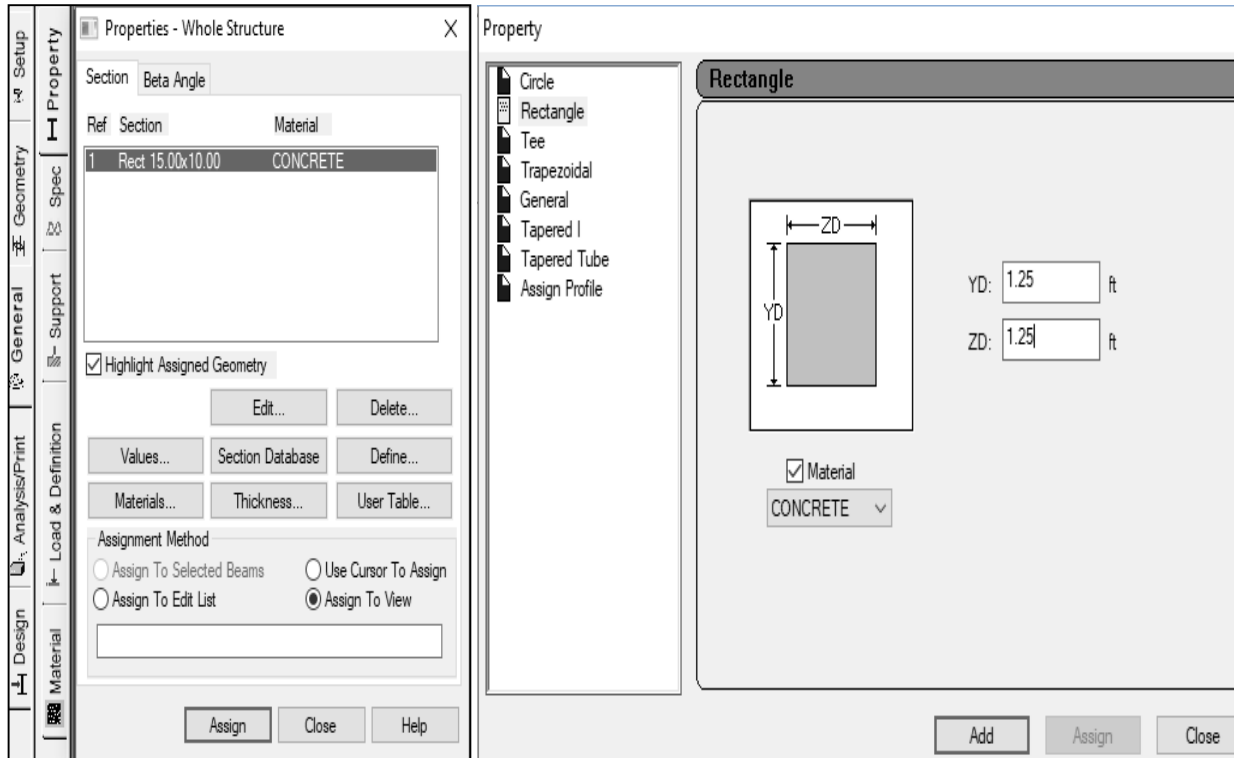

Fig: 3.5
2.1 **Property:** Define → Rectangle → Material = CONCRETE → YD = 1.25 ft (15"), ZD = 1.25 ft (15") → Add → Close then for Assign select the property and click on Assign to View → Assign → Yes. (Fig: 3.5)